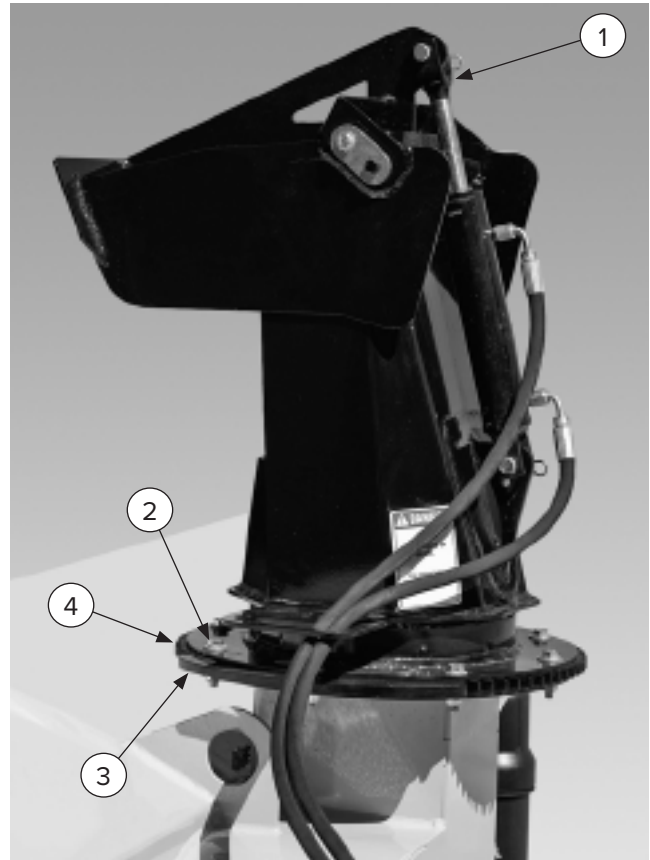

Figure 15
2. Place a strap under the cylinder top clevis (Item 1) [Figure 15] and secure to a proper lifting device. Use lifting device and strap of adequate size (chute weight approx. 60 lbs).
3. Remove retainer hardware (Item 2) [Figure 15] and retainer rings (Item 3) [Figure 15].
4. Loosen motor mount bolts (Item 6) [Figure 15] if needed to move drive gear.